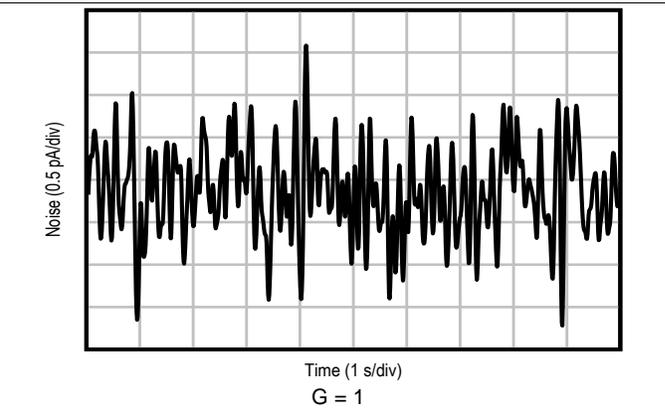

Figure 26. 0.1-Hz to 10-Hz RTI Current Noise
0.1-Hz to 10-Hz RTI Current Noise	<a href="#">Figure 26</a>